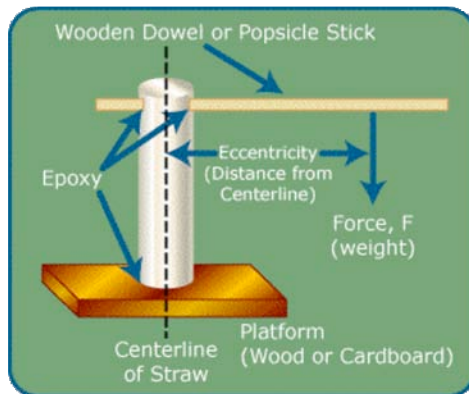

Figure 3
Use the soda straw as the column. Epoxy one end of the soda straw to some type of platform (piece of wood, cardboard, etc). This will insure stability. Once glued, the soda straw should stand in the upright position. Epoxy the wooden dowel or popsicle stick to the free end of the soda straw. Diagrams of the experiment are given in Figure 3 and 4
- (b) Next, take one weight and place it at different positions along the wooden dowel or popsicle stick (Figure 3). When a critical distance from the straw centerline is reached, the straw will buckle. Record the weight and the distance from the straw centerline. Repeat part (b). of the experiment for different weights, and the record the weight and distance from the straw centerline. You should observe that the heavier weights require smaller distances from the centerline for buckling to occur. Plot a graph of buckling load (weight applied) vs. distance from the straw centerline.